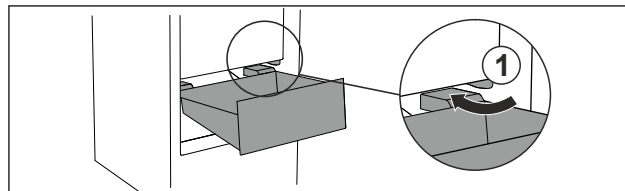

Fig. 115
- ▶ Guide drawer in at an angle around the stoppers Fig. 115 (1).